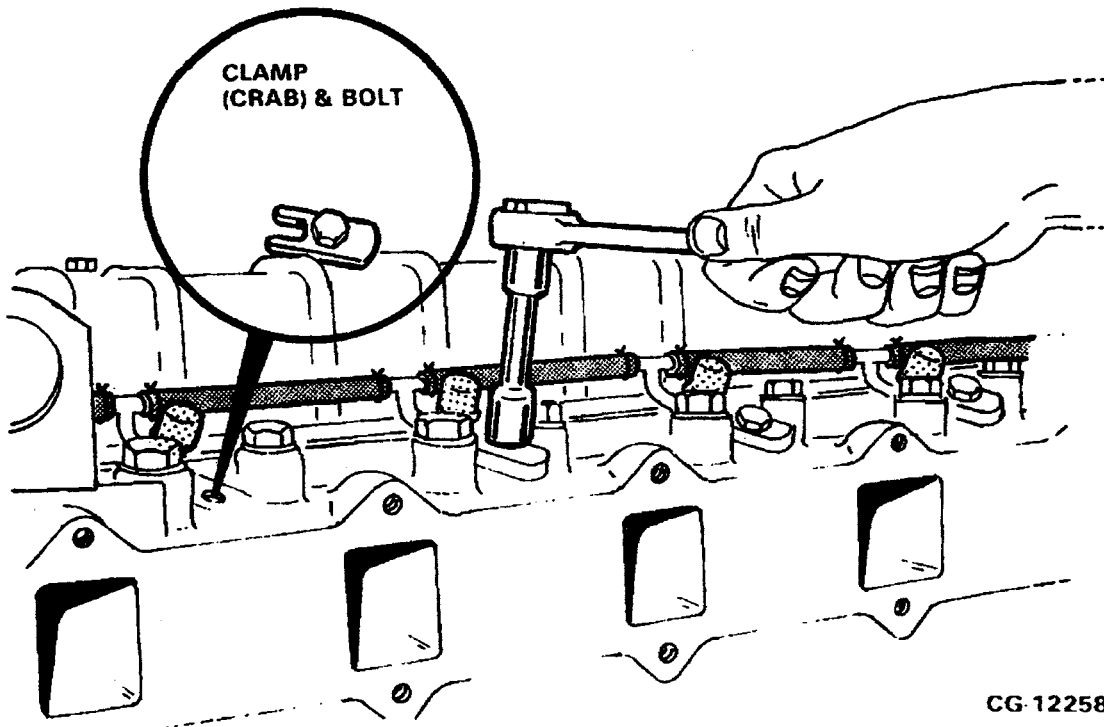

Figure 12.3. Remove Nozzle Hold-Downs
3. Remove the injection nozzle hold-down bolt and clamp (crab). Refer to Figure 12.3.